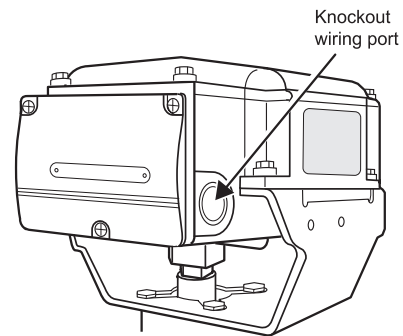

Figure 8. Knockout hole for wiring port
- 2) To lead the wires into the actuator, cut out a knockout hole for a wiring port. There are two knockout holes on the bilateral sides of the actuator terminal block: one $\phi 22$ mm knockout hole on each side. Select a knockout hole according to the conduit mounting direction and cut it out by lightly knocking with a screwdriver. (Refer to Fig. 8)